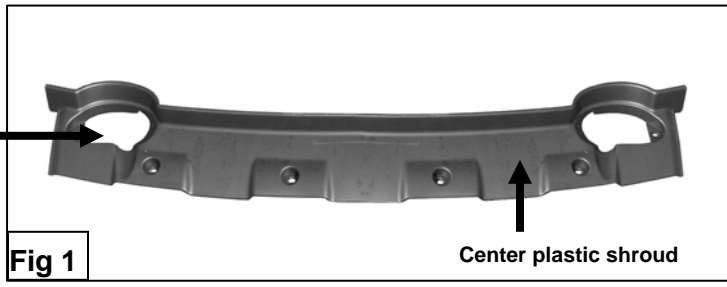

Fig 1
- From underside of vehicle, use a 10mm socket wrench to remove the 6 bolts holding the center plastic shroud. Set center plastic shroud on a clean working area and use a hack saw to cut out the driver side tow hook cavity (**Figure 1**).